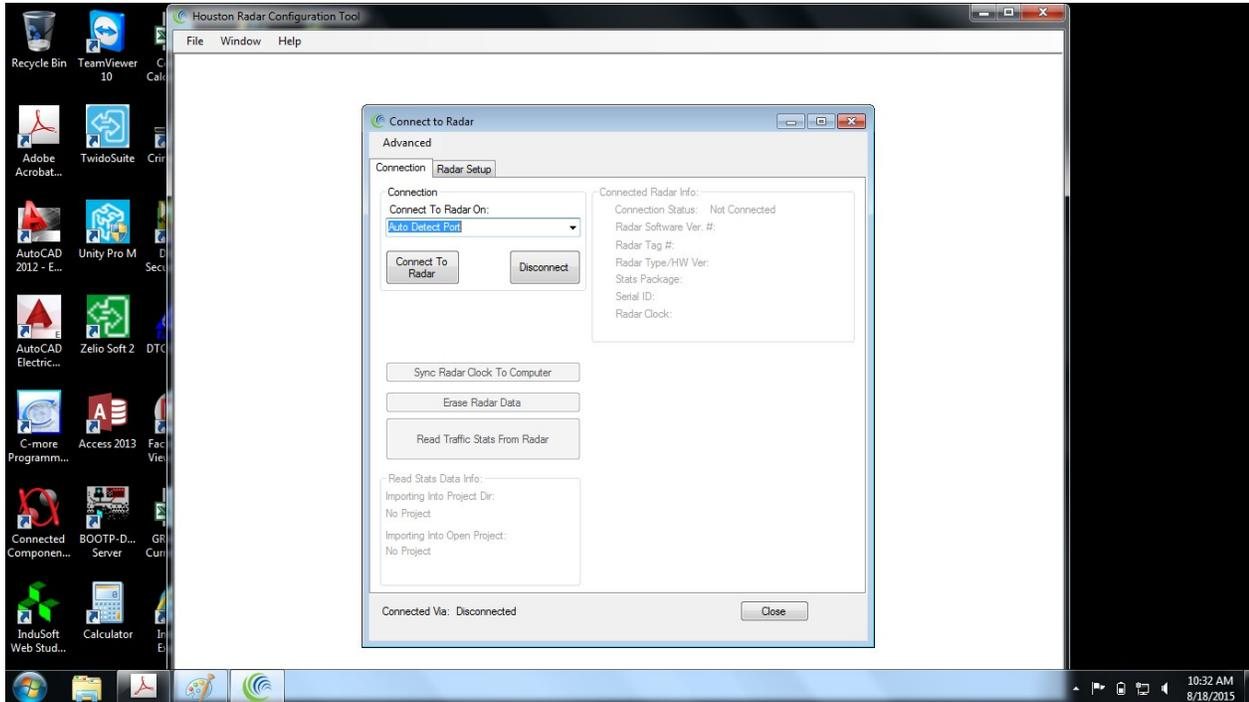

Figure 4
- 5.) Double Click on the Icon for the Houston Radar Configuration Tool software. You should see a popup screen shown in Figure 4. In some cases, the software may use Auto Detect and connect automatically, but if not the click the Connect to Radar button.